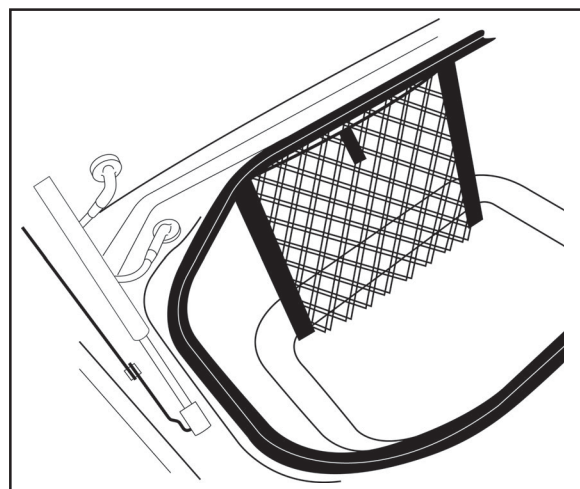

Fig. 8
2. Confirm completed assembly. (Fig. 8)